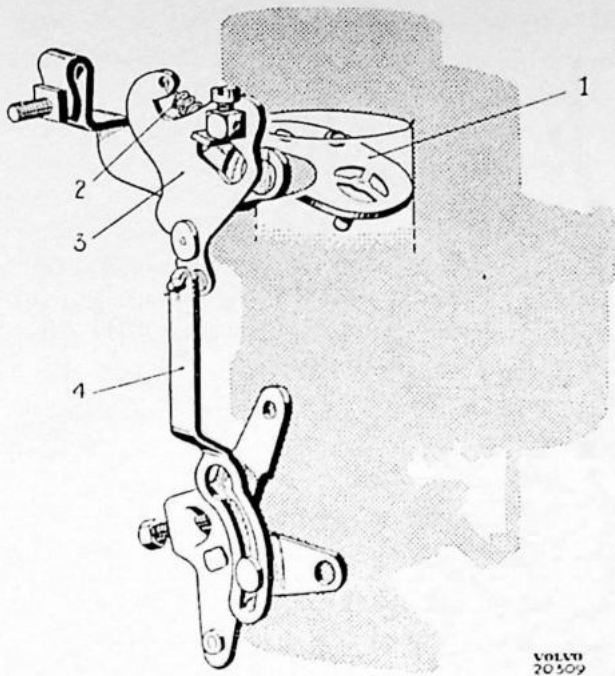

Fig. 12. Choke system.
The choke system, Fig. 12, is used only when starting a cold engine and during initial warm-up. It consists of an air choke plate (1) located in the air horn which is controlled from the instrument panel by means of a Bowden cable attached to lever (3) provided with a pullback spring (2) and supplies the engine with a richer fuel-air mixture during starting.